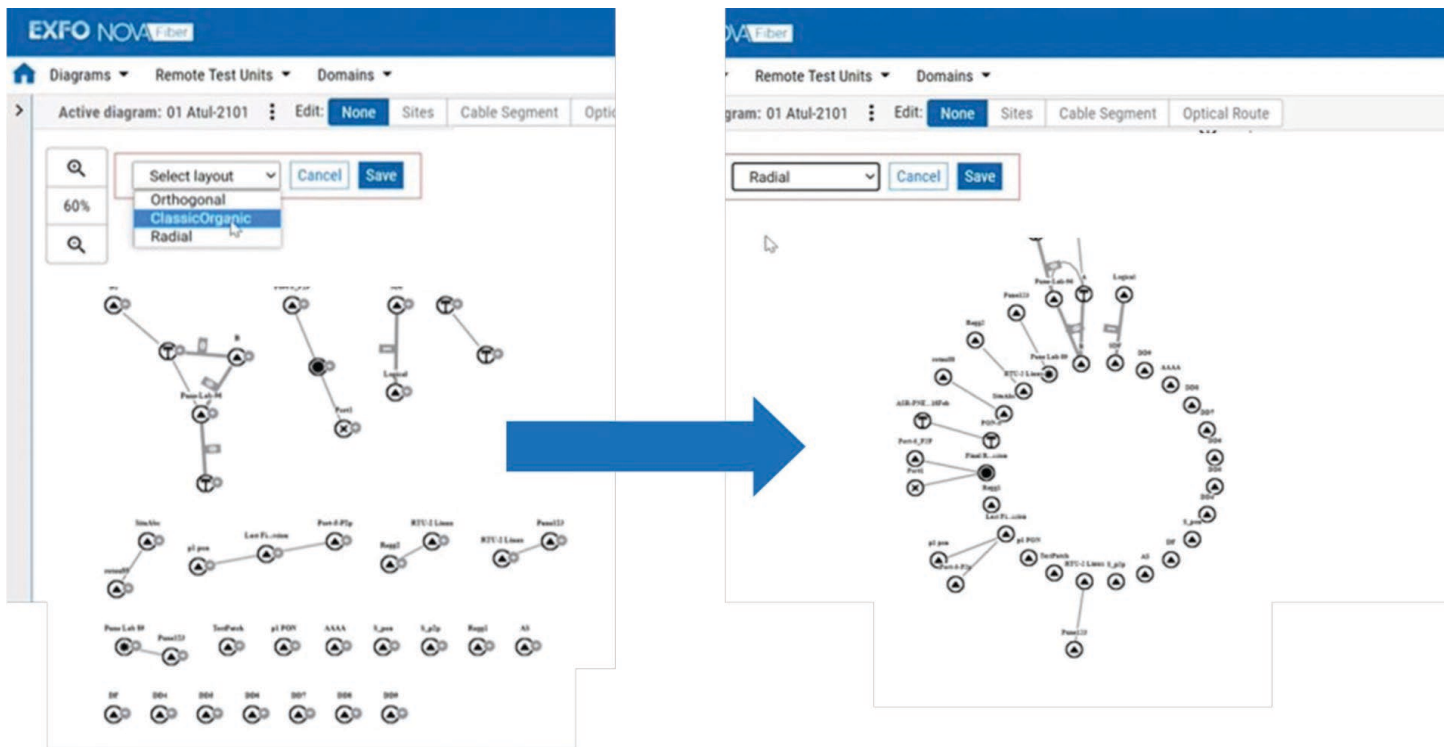

Figure 24: Organizing elements of a diagram in radial view within a single action
- Support diagrams to scale from monitoring few critical sites to countrywide topologies. A diagram regroupes a customer-defined batch of monitored optical routes together (e.g., a specific region) to allow users to focus only on routes relevant to their needs and navigate from one to another. Optical routes of diagrams can be automatically organized into schematic topological views: Radial view, Organic view, Orthogonal view (Figure 24)